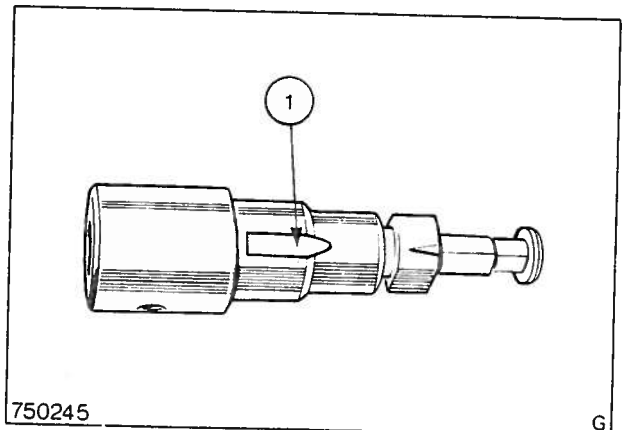

Fig. 54 Pump plunger
7. The vane of the pump plunger must be inserted into the control sleeve, Fig. 54 so that the marking on the vane points forwards in the direction of the control sleeve lever. Carefully press on the plunger to ensure that the plunger vane engages properly in the control sleeve.